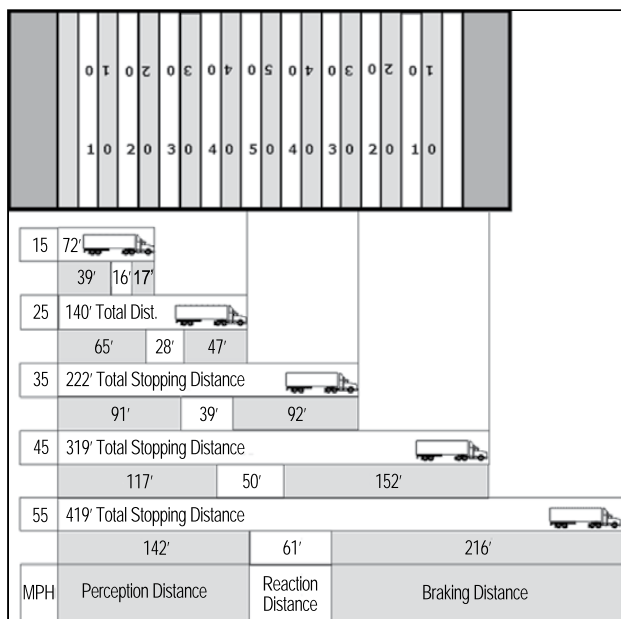

Figure 2.11
- **Total Stopping Distance.** The total minimum distance your vehicle has traveled, in ideal conditions, with everything considered, including perception distance, reaction distance, and braking distance, until you can bring your vehicle to a complete stop. At 55 mph, your vehicle will travel a minimum of 419 feet. Figure 2.11 shows the American football field in using distance.